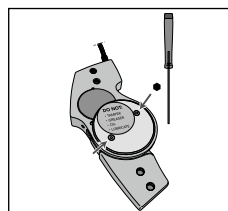

Fig. 4
2. Use the supplied Allen screwdriver to loosen the two screws on the medial (stainless steel) Cover Plate and remove it (see Fig. 4).